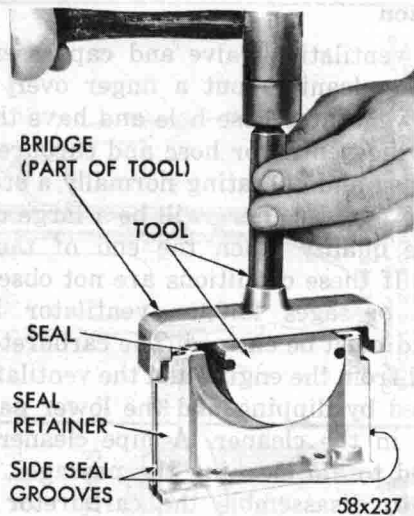
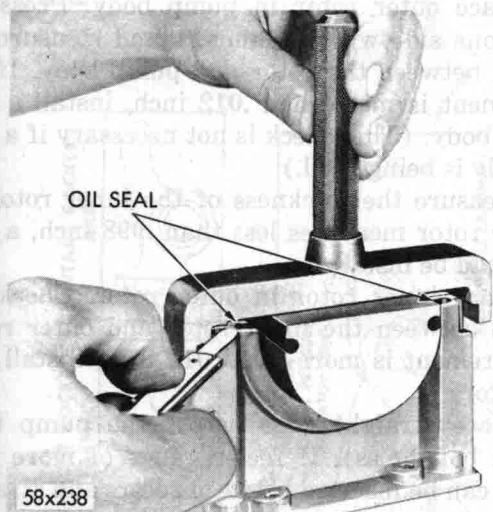

Fig. 56—Installing Rear Main Bearing Lower Oil Seal
Fig. 57—Trimming Rear Main Bearing Lower Oil Seal
(1) Install a new seal in the seal retainer so that the ends protrude, (Fig. 56).
(2) Install bridge on tool and tap the seal down into position with Tool C-3625 until tool is seated.
(3) Trim off the portion of the seal that protrudes above the cap (Fig. 57).
(4) Install the two side seals in grooves in seal retainer.
(5) Install seal retainer and tighten screws to 30 foot-pounds torque.